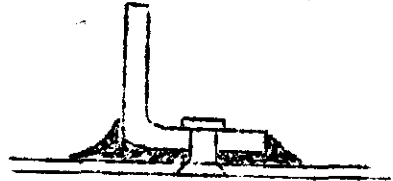

FIG. 5
11. Assemble all parts, not that a fillet will form at each faying surface. Dip all rivets in the sealant before installation. See Fig. 5.